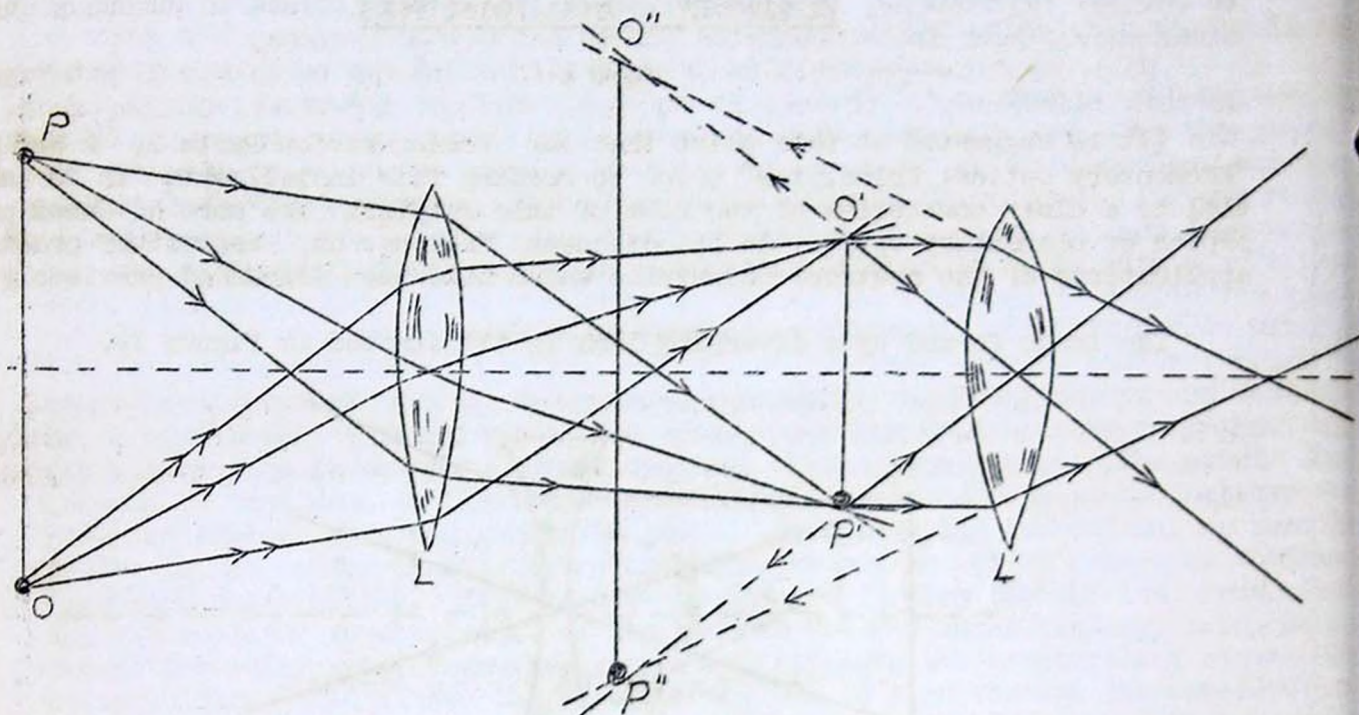

Figure 20
3) were used to form an image of the object, that the image $O'P'$ could be used as an object for the lens shown in Figure 18 (Part 3). The result would be that the final image formed by the second lens would be greatly enlarged, and would aid the observer in distinguishing details of the object. The combined system is shown in Figure 20.
In Figure 20 two lenses have been combined in what is really a simple telescope. We have taken the various abstract elementary optical principles studied and given them a practical application. By utilizing two lenses as shown above, we fix them rigidly in the tube at certain distances and have a simple telescope. The ratio of the apparent size of an object viewed through this telescope to its size as viewed with the unaided eye is termed the magnification, or the power of the telescope. Because the telescope still shows an inverted image it is called an astronomical telescope.